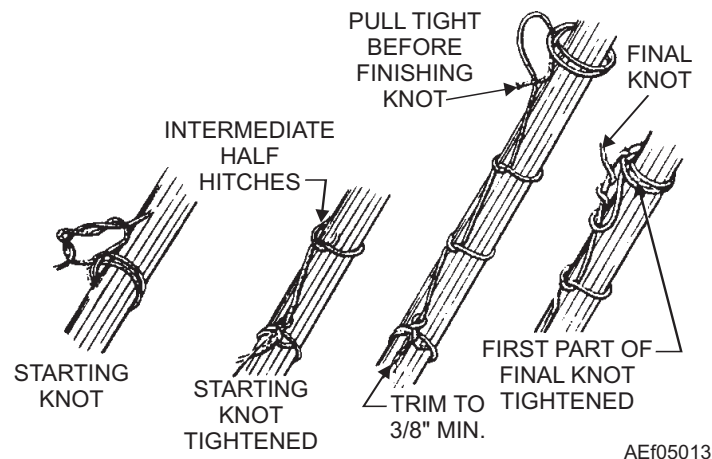

Figure 5-13.—Single-cord lacing.
1. Start the lacing at the thick end of the wire group or bundle with a knot consisting of a clove hitch with an extra loop. See figure 5-13.